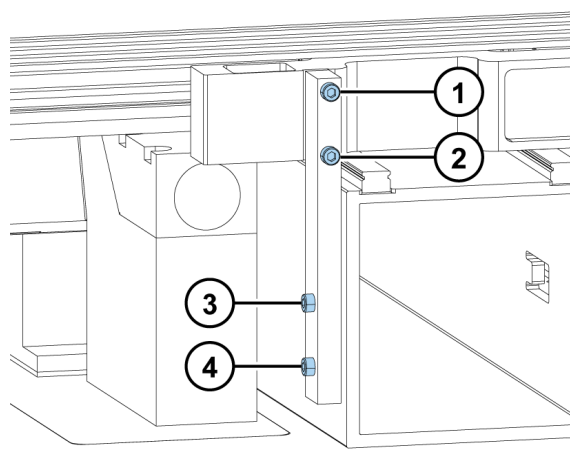

Figure 3–22 Tray holder screws (1 and 2) and track mechanism bar screws (3 and 4) on the transport lock.
6. Turn the transport lock into its horizontal storage position (Figure 3–23).